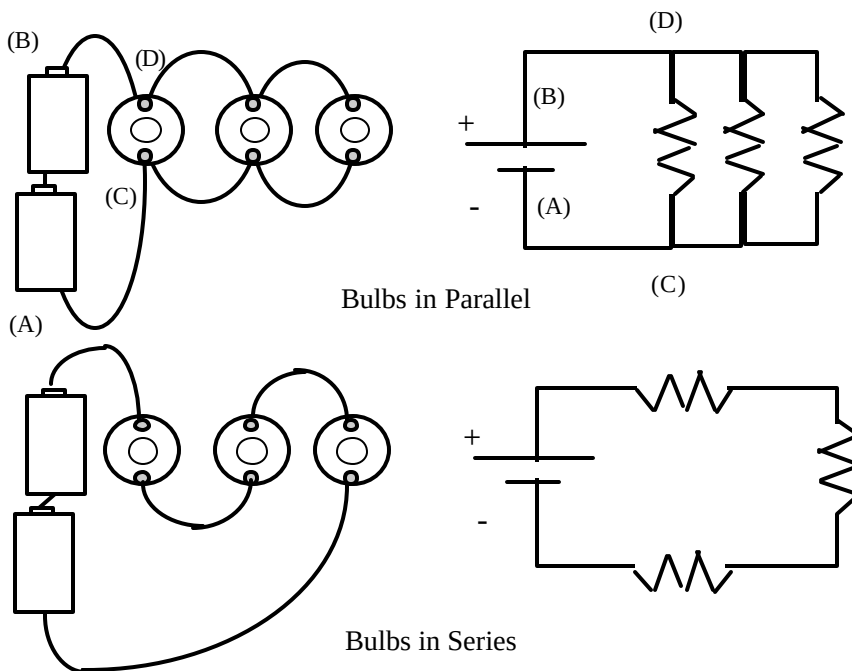

Figure 8: Light bulb Circuit One (top) and Circuit Two (bottom). Corresponding circuit diagrams on the right.
Now you will study light bulbs in parallel and in series. The circuit diagrams are shown in Figure 8. Note that the shape of the circuit diagram does not have to correspond to the physical shape of the circuit. What is important is 1) where the current flows and 2) which points are connected by wires (and therefore at the same voltage).
Label the points on each side of the battery and on each side of the bulbs (A), (B), (C), etc. Label the corresponding points on your circuit diagram (as shown in the top circuit in Figure 8). Set your multimeter up as a DC voltmeter and record the voltage differences across 1) the combination of the two batteries and 2) each of the bulbs. Record these values below your sketch. For example, the voltage between (A) and (B) should be measured with the negative probe at (A) and recorded as V_{AB} . Answer the following for this circuit: